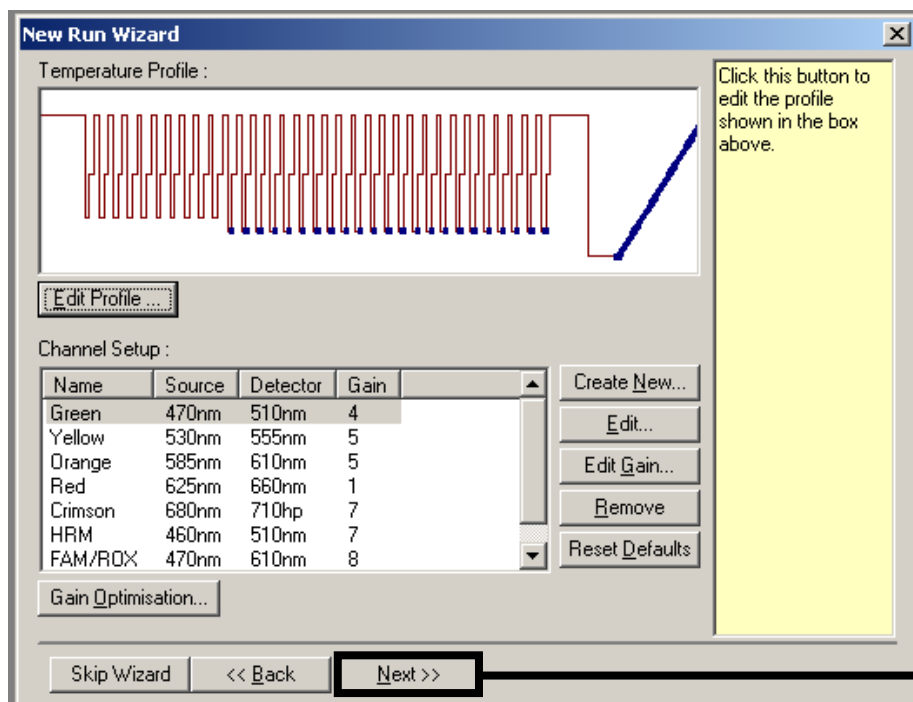
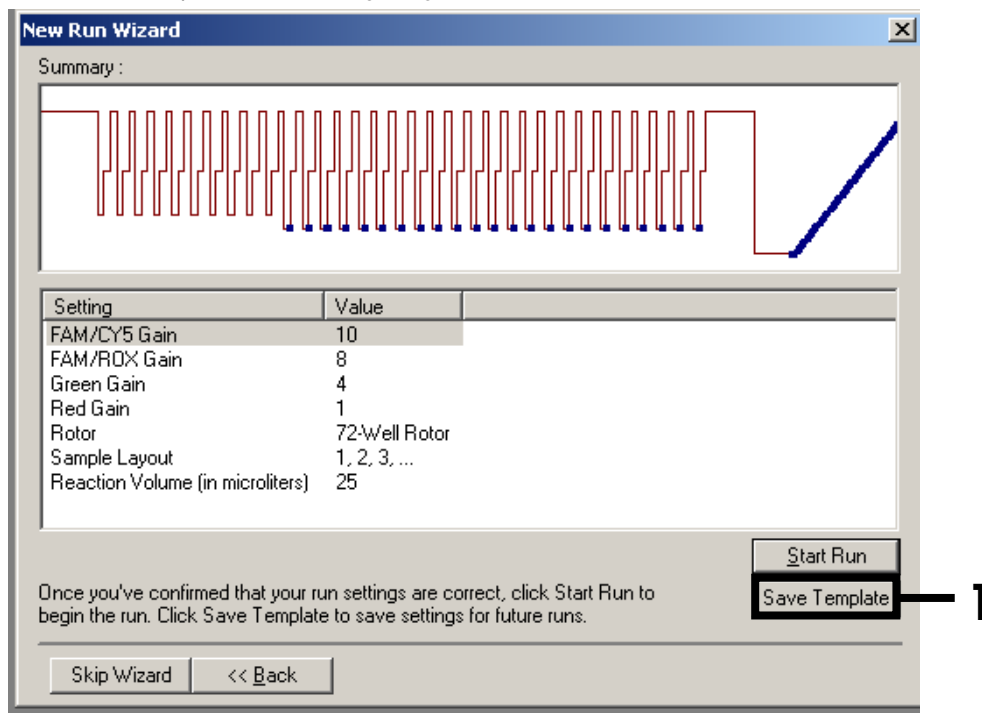

Figure 18. Summary of temperature profile.
Figure 19. Save template for later usage.
Summary and saving the template	Figure 18, Figure 19
12. Save the template for later usage (Figure 19).